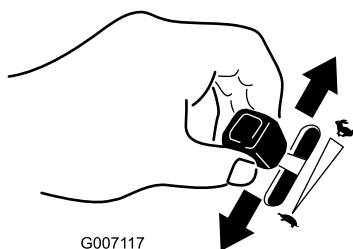

Figure 23
6. Move the throttle lever to the desired setting (Figure 23).